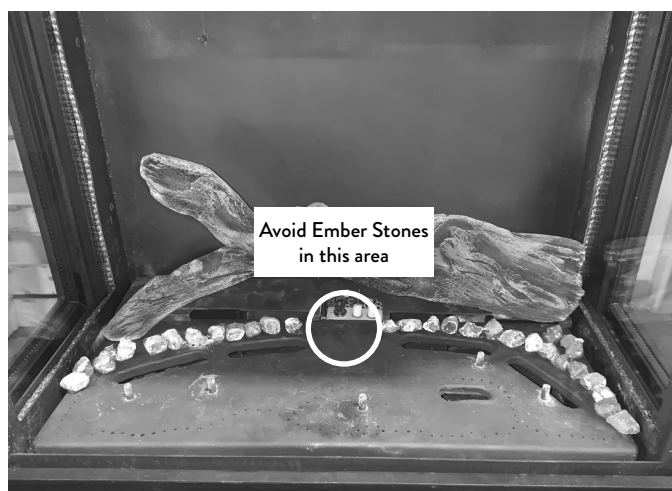

Figure 11.2. Place 12-15 Ember Stones on each side of the Burner. Avoid the Pilot carry-over area.
- 2. Place 12-15 Ember Stones** on each side of the rear of the Burner as shown in fig. 11.2. **KEEP EMBER STONES AWAY FROM THE PILOT CARRY-OVER AREA AND BURNER PERIMETER.**